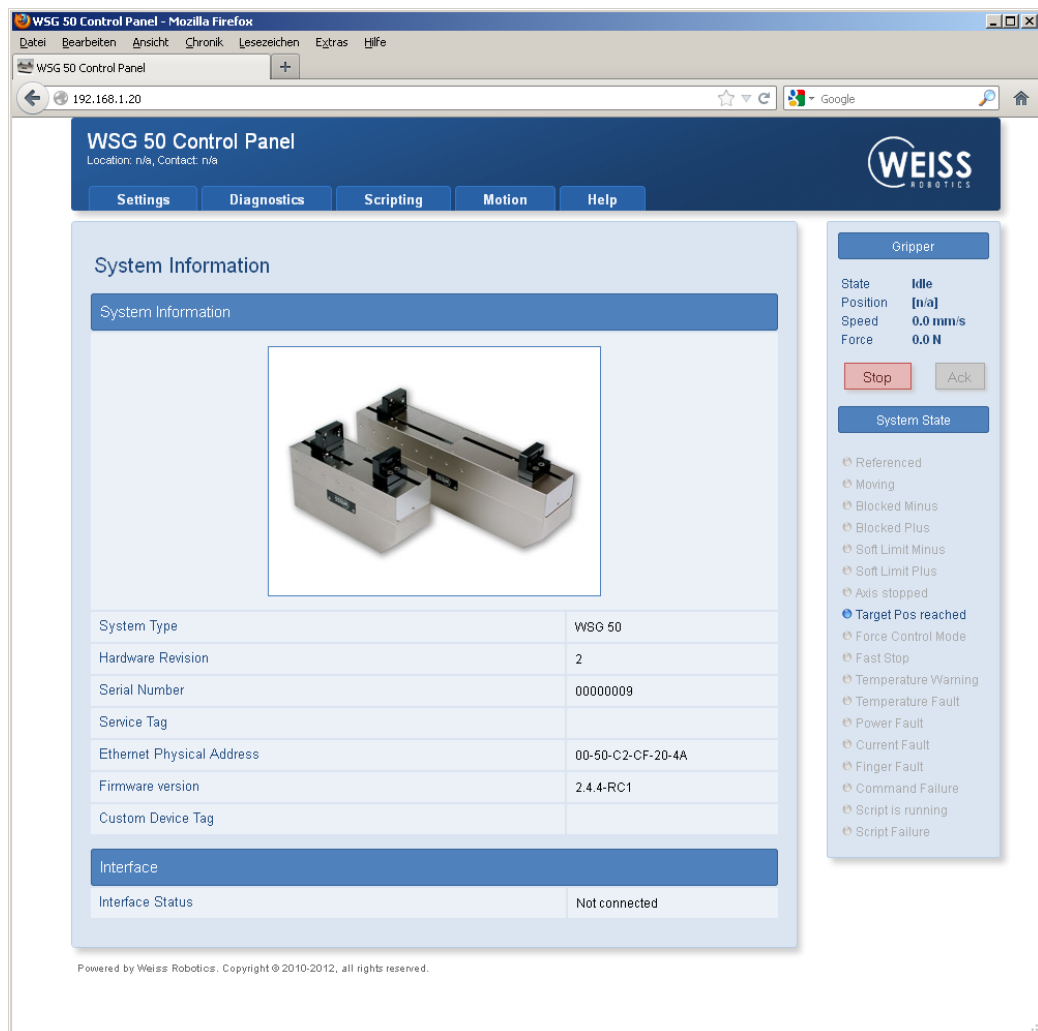

Figure 21: The starting page of the web-based interface
5. You will be presented with the module's configuration interface (Figure 21)